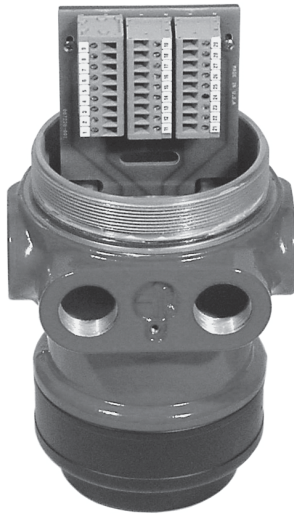

Figure 4—X22AF Terminal Block
(Refer to Figure 4 for Current Detector Orientation)
1. Make field connections following local ordinances and guidelines in this manual. Refer to Figures 4 through 12.